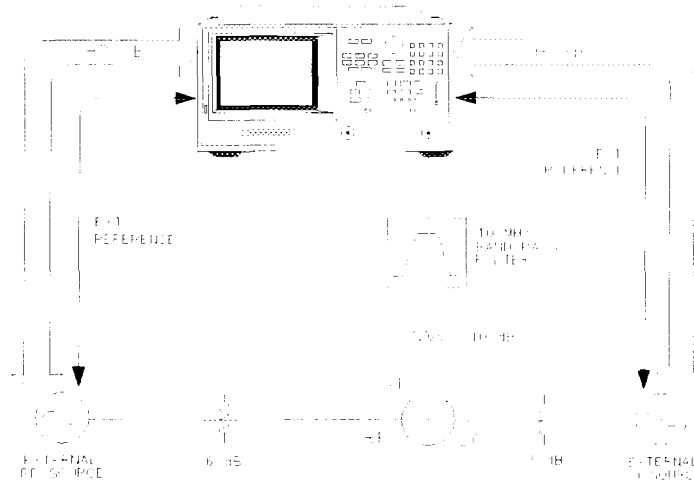

Figure 8-10. Connections for a Conversion Loss Using the Tuned Receiver Mode
This measurement requires two external RF sources as stimuli. Figure 8-10 on page 8-15 shows the hardware configuration for the fixed IF conversion loss measurement. This example measurement procedure uses the analyzer's test sequence function for automatically controlling the two external synthesizers (with SCPI commands), and making a conversion loss measurement in tuned receiver mode. The test sequence function is an instrument automation feature internal to the analyzer. For more information on the test sequence function refer to Chapter 11, "Creating Sequences", or to *Product Note HP 8753-3* (HP part no. 08753-90133).
- 1 Make the following connections as shown in Figure 8-10. Set the HP-IB address of the external source to 19, and the external LO source to 21.